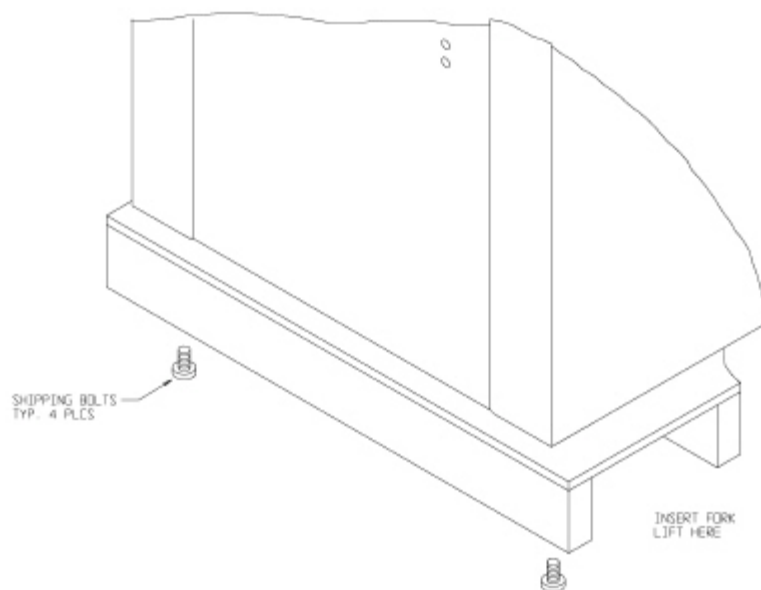

Figure 2-3: Transmitter moving
Evaluate the installation site and determine the location of the transmitter. Once the location is determined, refer to Figure 2-3 and use a forklift to move the transmitter to the desired location. After the transmitter is placed in the desired location, remove the shipping skid as follows:
1. Refer to Figure 2-3 and remove the 5/16 inch shipping bolts securing the transmitter to the skid.